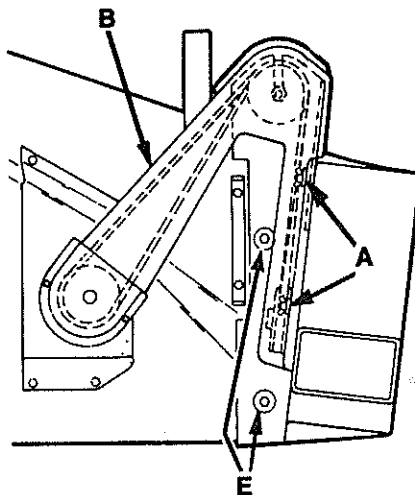
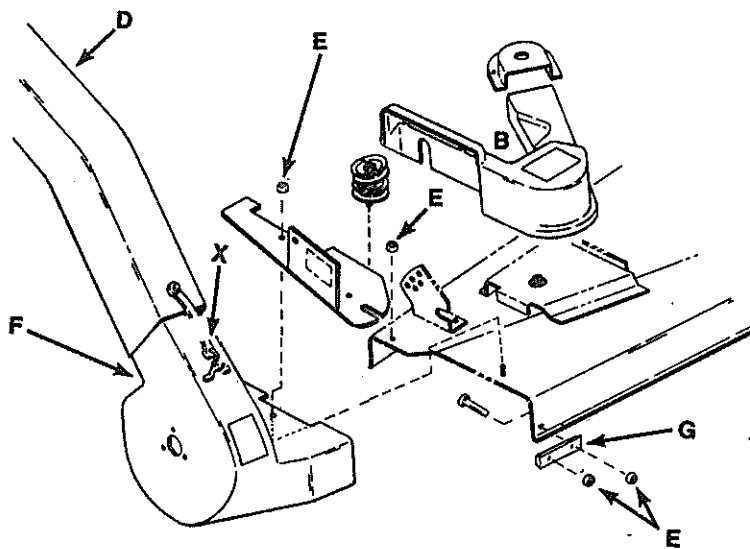
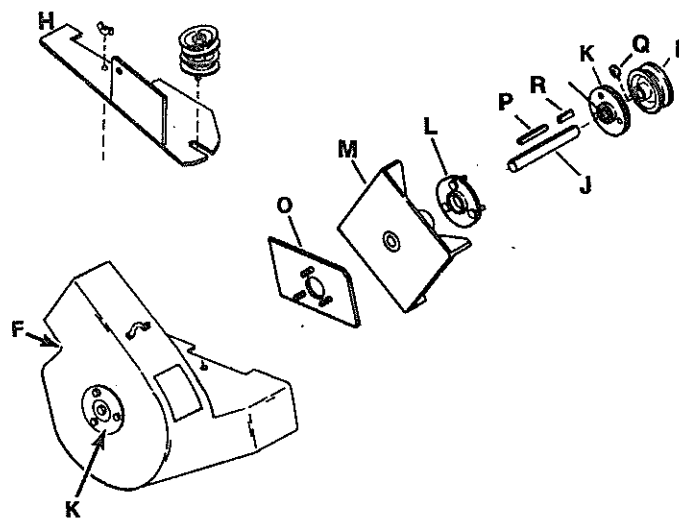

Figure 6-23
Figure 6-25
Figure 6-26
- a. Remove wing nuts and washers (A, Figure 6-23) securing belt guard (B) to blower housing. Remove the belt guard.
- d. Unhook rubber latch (X, Figure 6-25) and remove chute assembly.
- e. Remove the 4 nuts (E) from blower housing (F) and support bracket (G). Blower housing should now be loose.
- d. Remove impeller shaft (J) by driving through either side of blower housing.
- e. Remove inner bearing flange (L) from blower housing.
- f. Remove impeller fan (M) by prying through opening of blower housing. Fan should be indexed with opening as shown. If necessary, apply heat (with a heat gun) at location (N) to make housing more pliable.
- a. Remove mounting frame (H, Figure 6-26) from blower housing (F).
- b. Remove pulley (I, Figure 6-26) and keys from impeller shaft (J).
- c. Remove bearing flanges and bearings (K) from blower housing (F).
- g. Remove outer bearing flange (O).
- a. Install outer bearing flange (O, Figure 6-26).
- b. Install impeller fan (M) through opening in blower housing.
- c. Install impeller shaft (J) through impeller fan. Install key (P).
- d. Install inner bearing flange (L).
- e. Install washers (Q) on impeller shaft.
- f. Install bearing flanges and bearings (L) to blower housing.
- g. Install key (R) onto exposed shaft. Install pulley (I).
- h. Install mounting frame assembly (H) onto blower housing.
- a. Re-install blower assembly (F, Figure 6-23) onto mower deck. Reverse step 5 in BLOWER REMOVAL.
- b. Re-install chute assembly (D).
- c. Install belt and adjust (Figure 6-25).